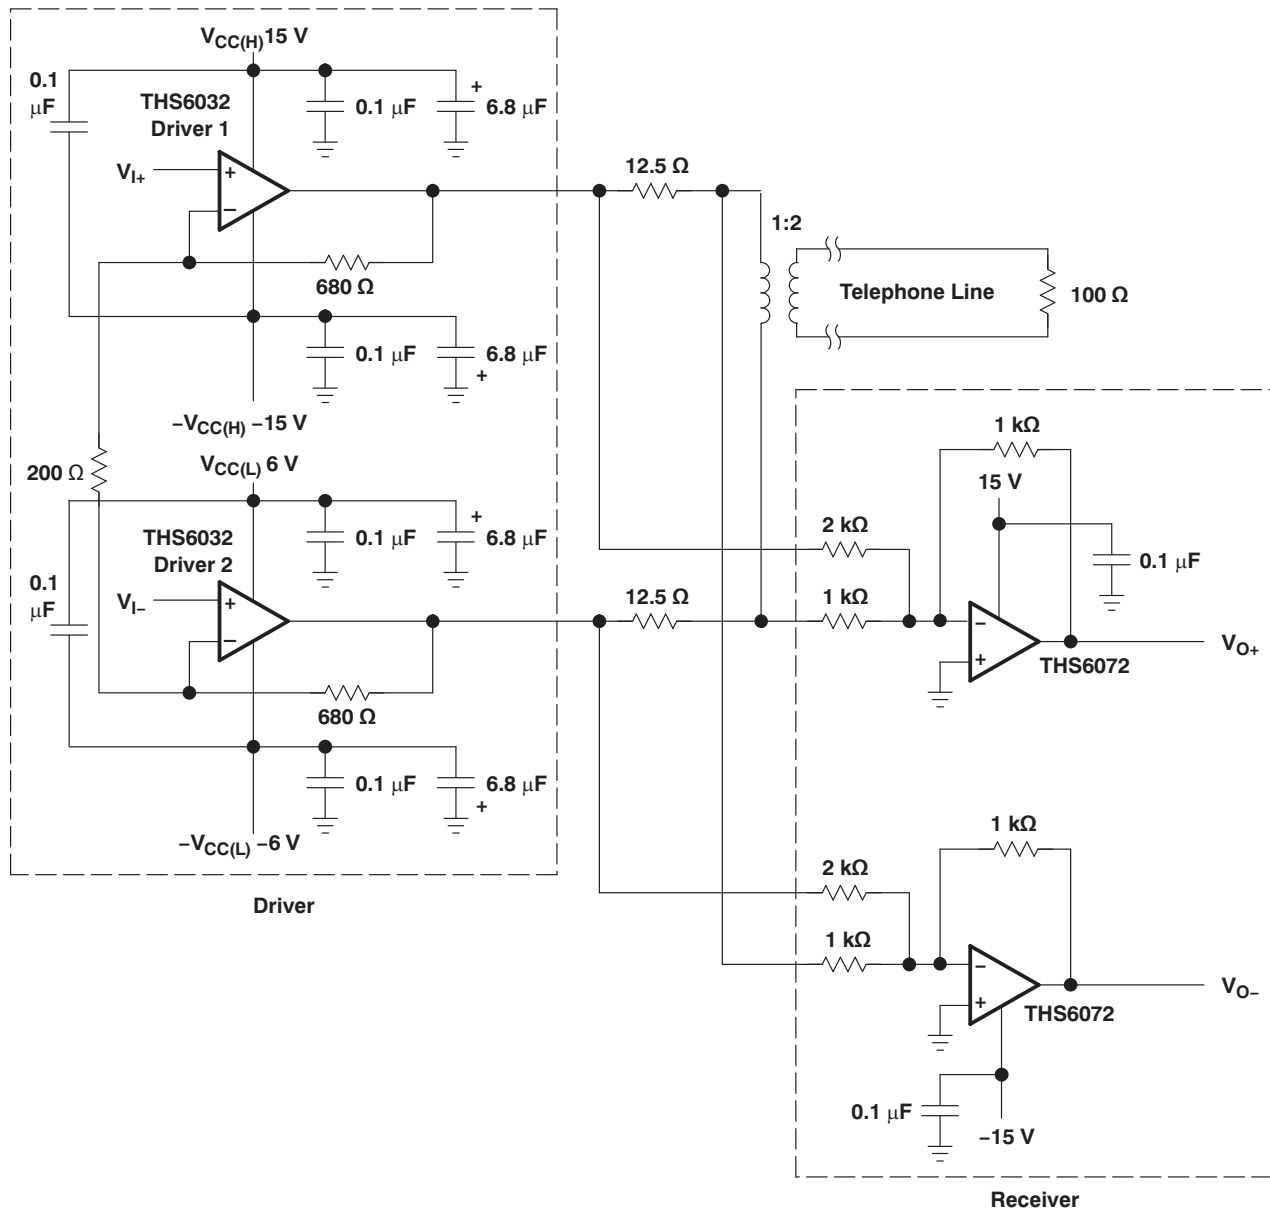

Figure 36. THS6032 ADSL Application
The THS6032 was primarily designed as a low-power line driver for ADSL (asymmetrical digital subscriber line). The driver output stage has been sized to provide full ADSL power levels of 20 dBm onto the telephone lines. Although actual driver output peak voltages and currents vary with each particular ADSL application, the THS6032 is specified for a minimum full output current of 400 mA at its full output voltage of approximately 11 V. This performance meets the demanding needs of ADSL at the central office end of the telephone line. A typical ADSL schematic is shown in Figure 36.
- Differential power supply decoupling – The THS6032 was designed to drive low-impedance differential signals. The 25- Ω load that each amplifier drives causes large amounts of current to flow from amplifier to amplifier. Power-supply decoupling for differential-currents must be provided to ensure low distortion in the THS6032. By simply connecting a 0.1- μF ceramic capacitor from the $+V_{CC(H)}$ pin to the $-V_{CC(H)}$ pin, along with another 0.1- μF ceramic capacitor from the $+V_{CC(L)}$ pin to the $-V_{CC(L)}$ pin, differential current loops will be minimized (see Figure 36). This will help keep the THS6032 operating at peak performance.
The THS6032 incorporates a shutdown circuit to conserve power. Traditionally, when an amplifier is placed into shutdown mode, the input and output circuitry are turned off. This conserves a large amount of power, but the output impedance will be a very high, typically greater than several k Ω . This situation does not maintain proper line termination, resulting in a severe reduction of the receive signal coming through the transmission line (see Figure 36).